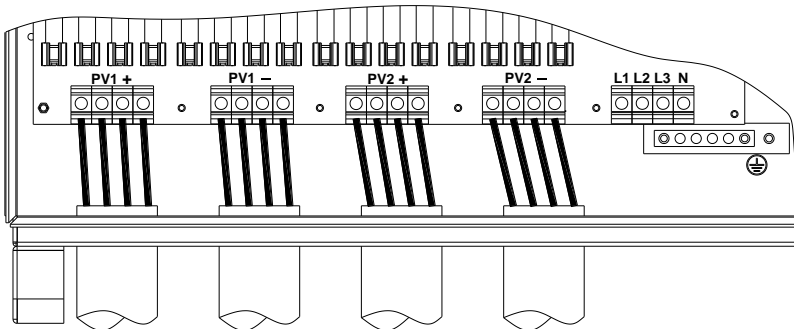

Figure 3-22 Connection of DC input cables
- (f) Connect the crimped DC cables to the terminal block on the circuit board and fasten the screws, as shown in Figure 3-22: